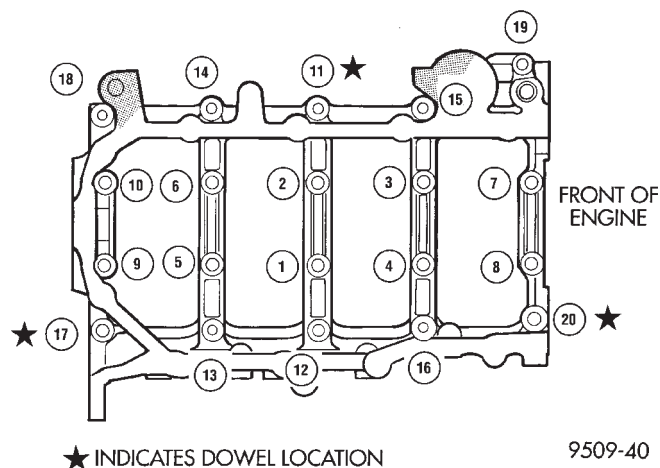

Fig. 83 Main Bearing Caps/Bedplate Torque Sequence
down together until the bedplate contacts the cylinder block. Torque bolts to 30 N·m (22 ft. lbs.) (Fig. 83).
(8) Install main bearing bedplate to engine block bolts (1 thru 10) and torque each bolt to 81 N·m (60 ft. lbs.) in sequence shown in (Fig. 83).
(9) Install main bearing bedplate to engine block bolts (11 thru 20), with baffle studs in positions 12, 13 and 16 and torque each bolt to 30 N·m (22 ft. lbs.) in sequence shown in (Fig. 83).
(10) After the main bearing bedplate is installed, check the crankshaft turning torque. The turning torque should not exceed 5.6 N·m (50 in. lbs.).
(11) Install oil pump. If crankshaft end play is to be checked refer to service procedures in this section.